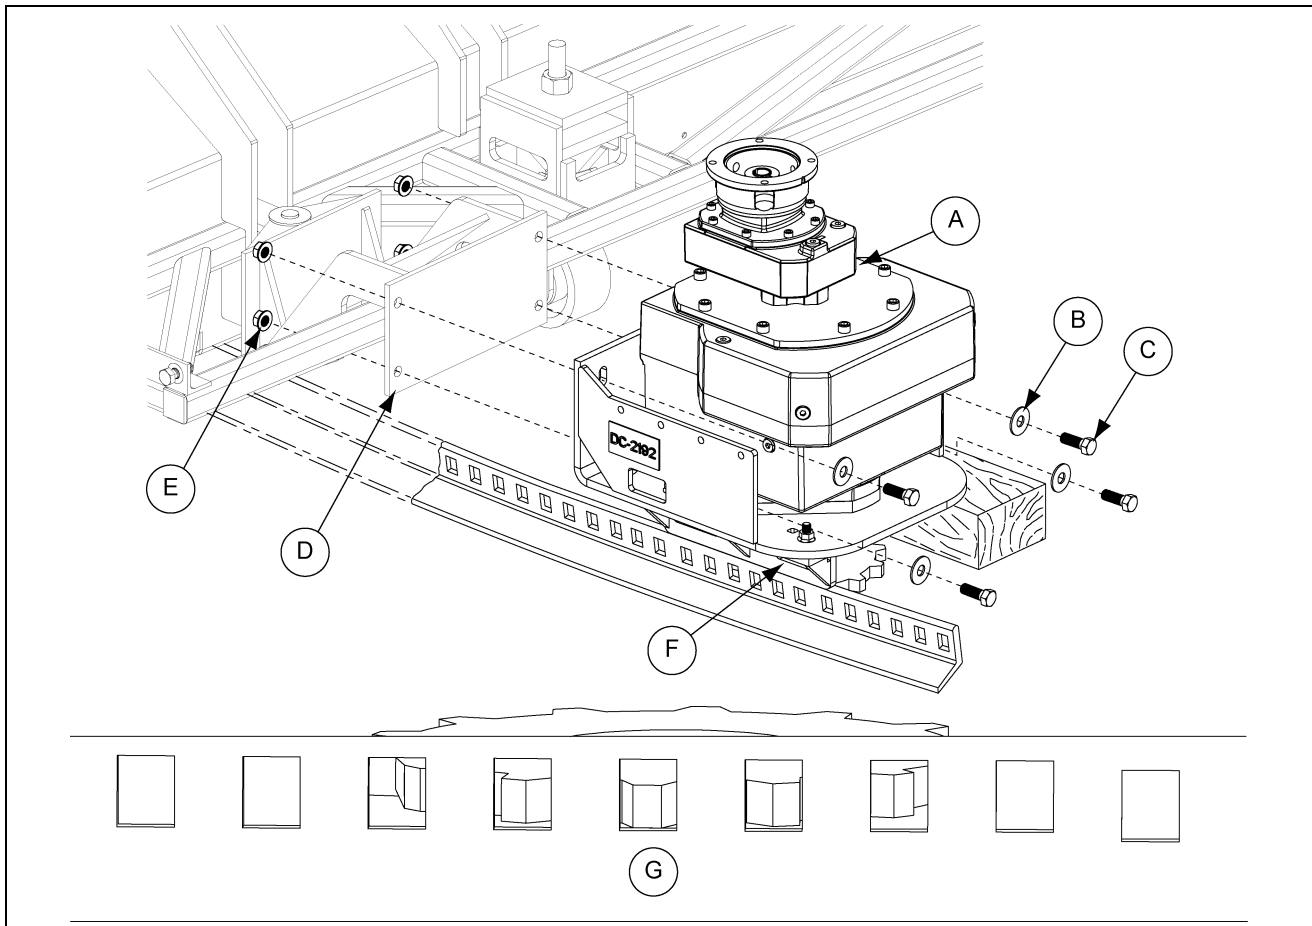

Figure 8F
1. Carefully place the gearbox assembly (A) in the upright position and support the assembly with blocks. *(See Figure 8F.)*
2. Position the gearbox assembly (A) so the drive keeper mounting plate (F) rests on top of the track and align the gear wheel teeth to the bottom of the track slots (G).